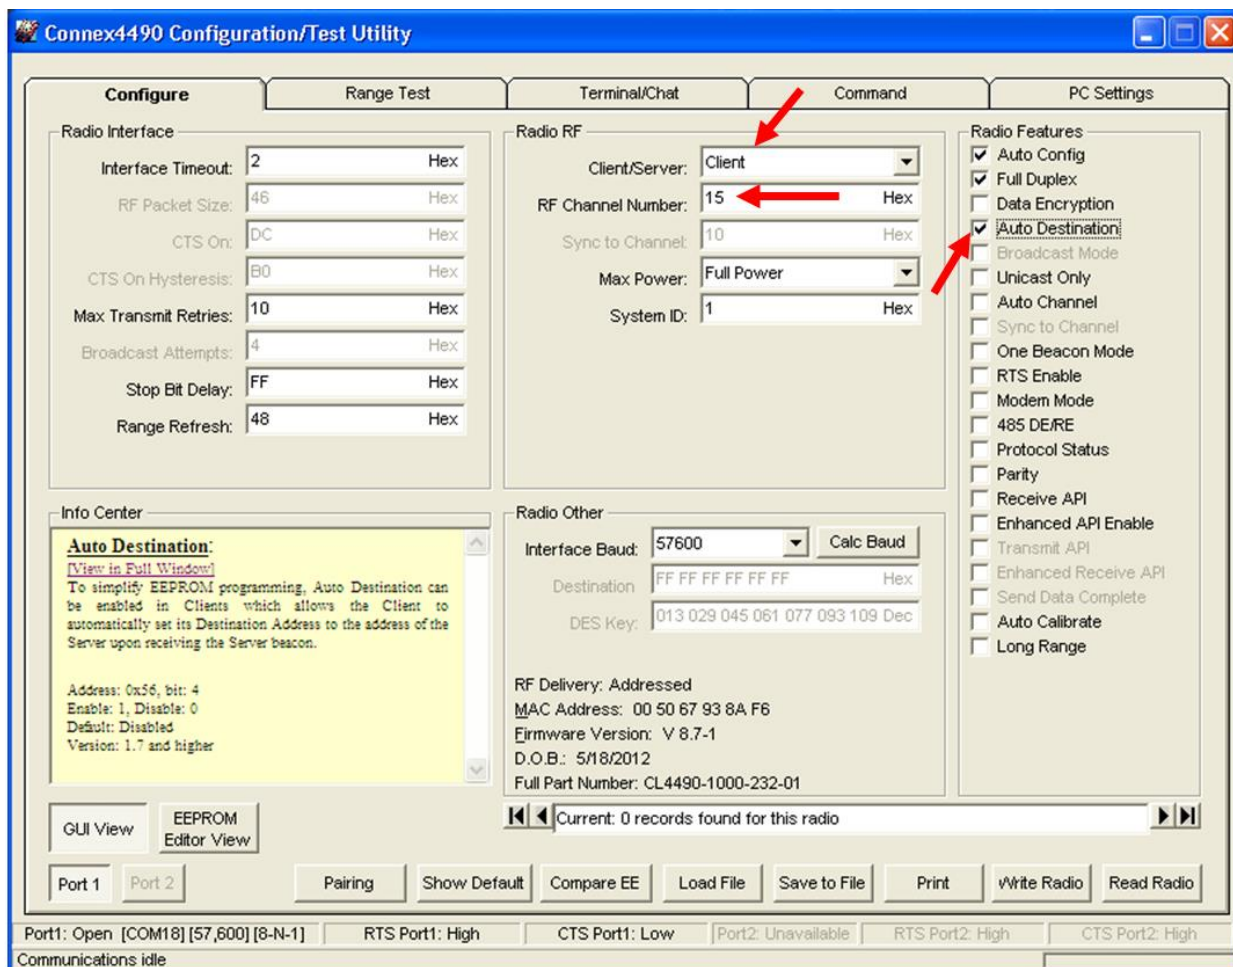

Figure 14: Client settings
19. Configure the radios that will communicate with server #2 as *Client* and *Auto Destination* and with the same RF Channel Number as server #2 (Figure 14). Click **Write Radio** to write the changes to the radios EEPROM.